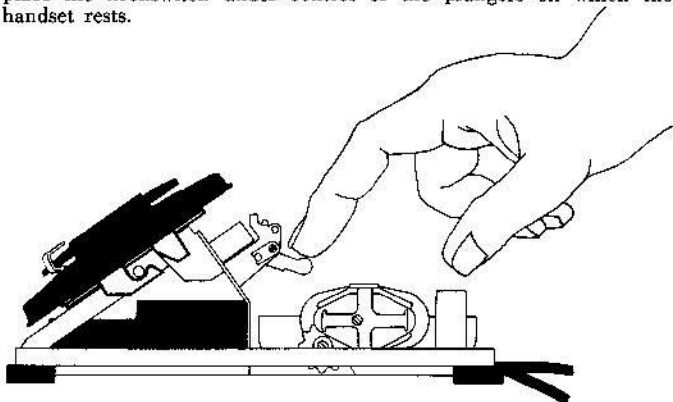

Figure 32. Hooklock.
18.2 If telephone is connected to the line, push hooklock downward (figure 32) to its locked-open position so that the line is not held busy and incoming calls are not lost while work is being done inside the telephone.
As stated in §18.2, when working inside the telephone, press down the hooklock (figure 32).
Remove telephone housing (§18). Push hooklock down (figure 32) if telephone is connected to the line. From the transmission unit disconnect the three handset cord leads from terminals 5T, 4-R, and 3-C. Loosen cord-clamp screw (at the left of the cord leaving telephone), remove clamp, loosen the 3 ringer-mounting screws (figure 22), and pull out old cord.